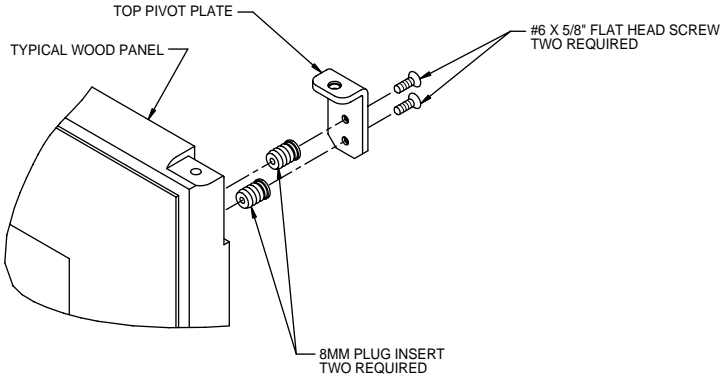

Figure 3
- a. Tap nylon inserts into the top holes drilled in the wood panel. Use two #6 screws (P/N 42122) to attach top pivot bracket (P/N 12029) to the wood door panel (see Figure 3).